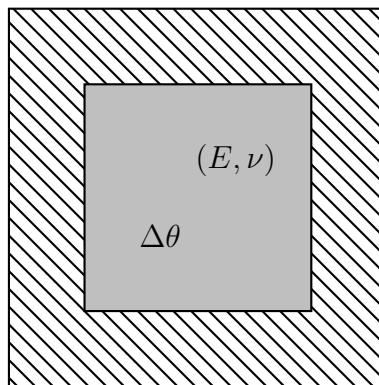

Figure 3.2: Specimen fully constrained.
**Concept Question 3.7.2.** *Thermoelasticity in a fully constrained specimen.* Let's consider a specimen which deformations are fully constrained (see Figure 3.2). The material behavior is considered isotropic linear elastic with  $E$  and  $\nu$  the elastic constants, the Young's modulus and Poisson's ratio, respectively. A temperature gradient  $\Delta\theta$  is prescribed on the specimen.